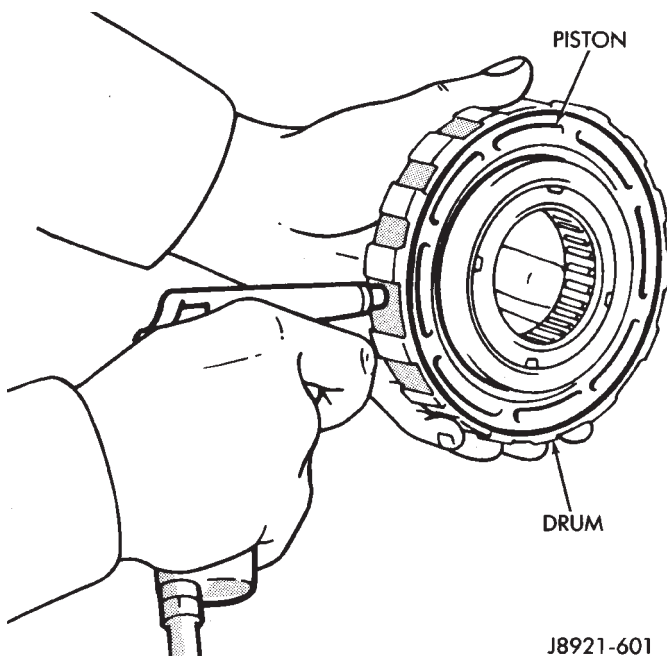

Fig. 7 Checking Second Brake Piston Operation
(1) Lubricate and install new O-rings on brake piston. Then install brake piston in drum.
(2) Install return springs and retainer on brake piston.
(3) Compress return springs with shop press and Compressor Tool 7538. Install piston snap ring and remove brake assembly from press.
(4) Check brake piston operation with low pressure compressed air (Fig. 7). Apply air pressure through feed hole in drum. Piston should move smoothly when applying and releasing air pressure.